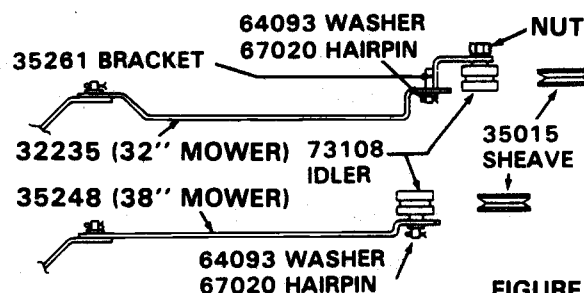

FIGURE 8
22. Attach Mower Brake Link to Stud under Attachment Idler and secure with hair pin. See Figure 8.